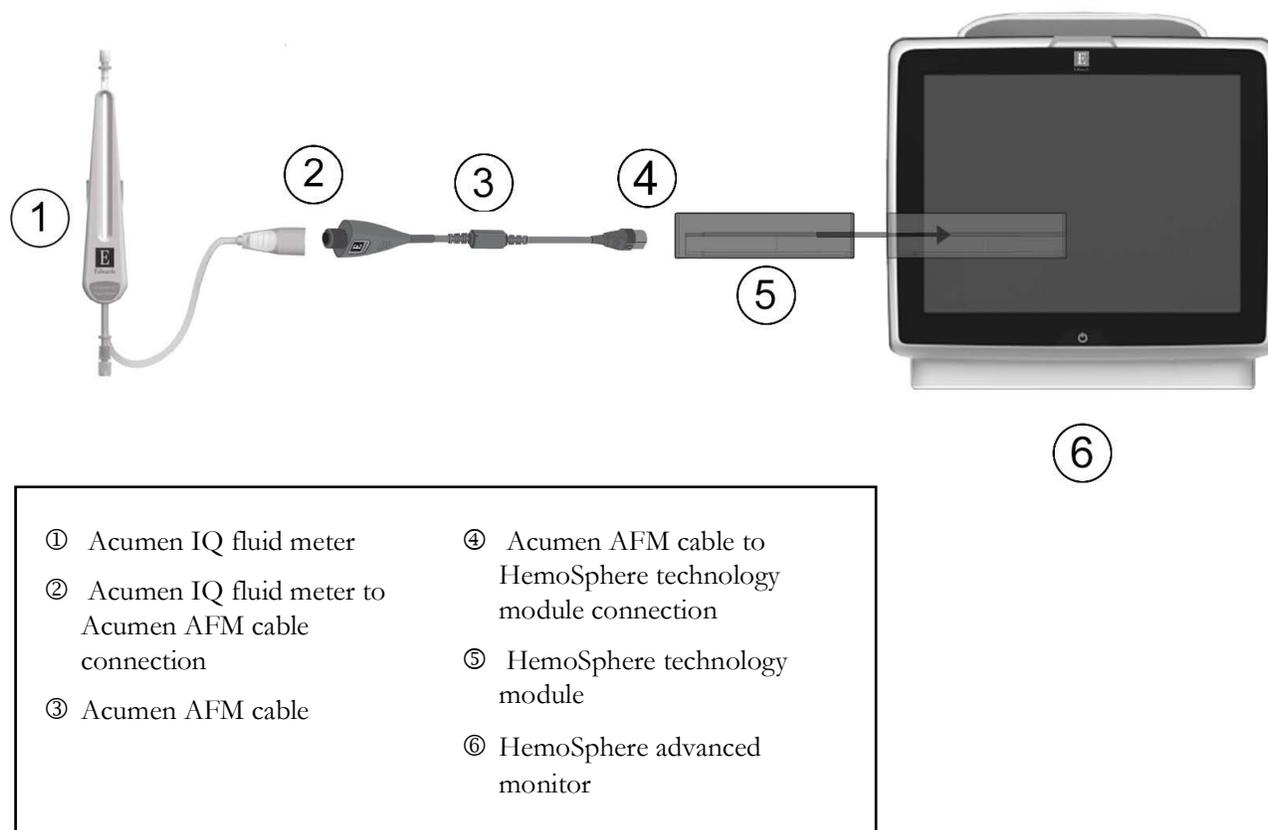

Figure 14-13 Acumen IQ fluid meter and Acumen AFM cable connection overview
- 4 Connect the Acumen IQ fluid meter to the end of the Acumen AFM cable indicated by ② in figure 14-13.